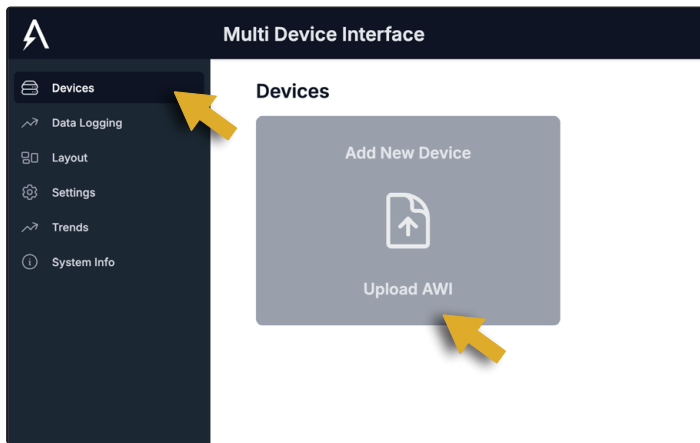

Figure 47
4. Select the **Add New Device** button, and choose the EngMon AWI file to be added. See *Figure 47*.